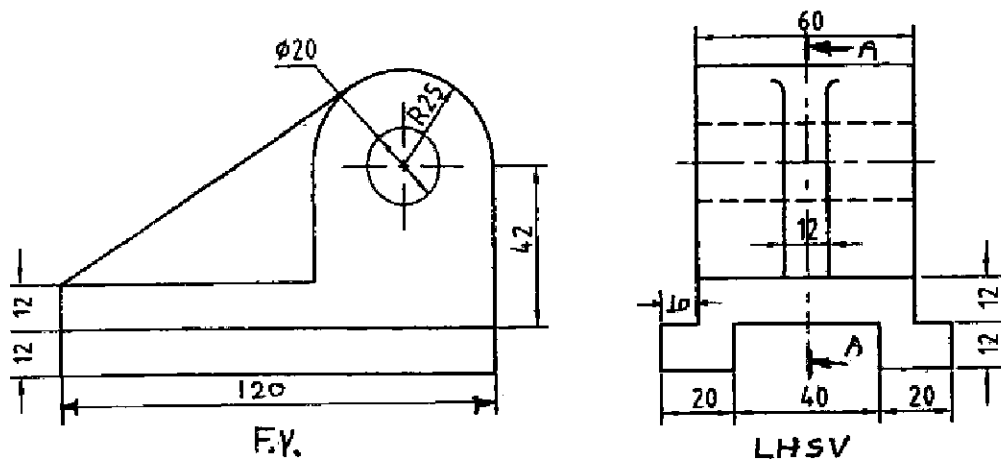

Figure 8
10. The figure 8 shows FV and LHSV of a machine part. Draw